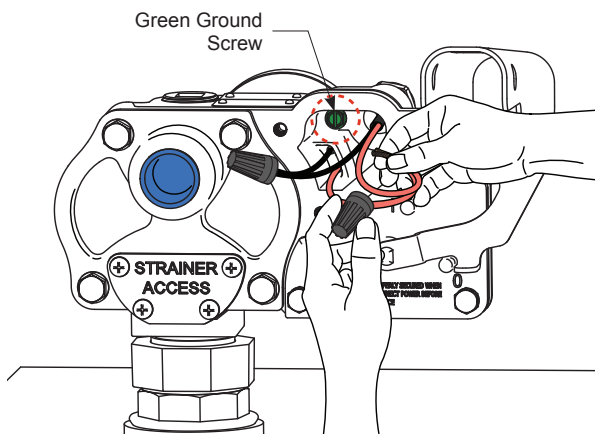

Figure 11
2. Remove the electrical coverplate (see Figure 11). Be careful not to damage gasket.